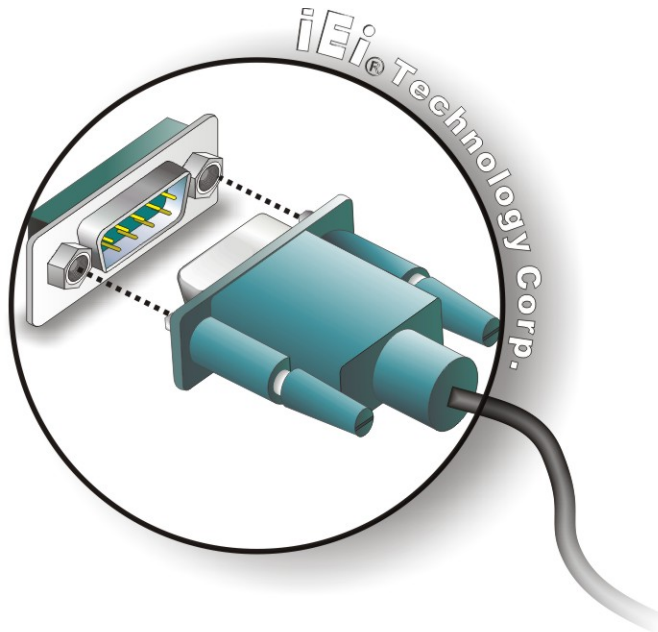

Figure 4-20: DB-9 Serial Port Connector
Step 2: Insert the serial connector. Insert the DB-9 connector of a serial device into the DB-9 connector on the bottom panel. See **Figure 4-20**.